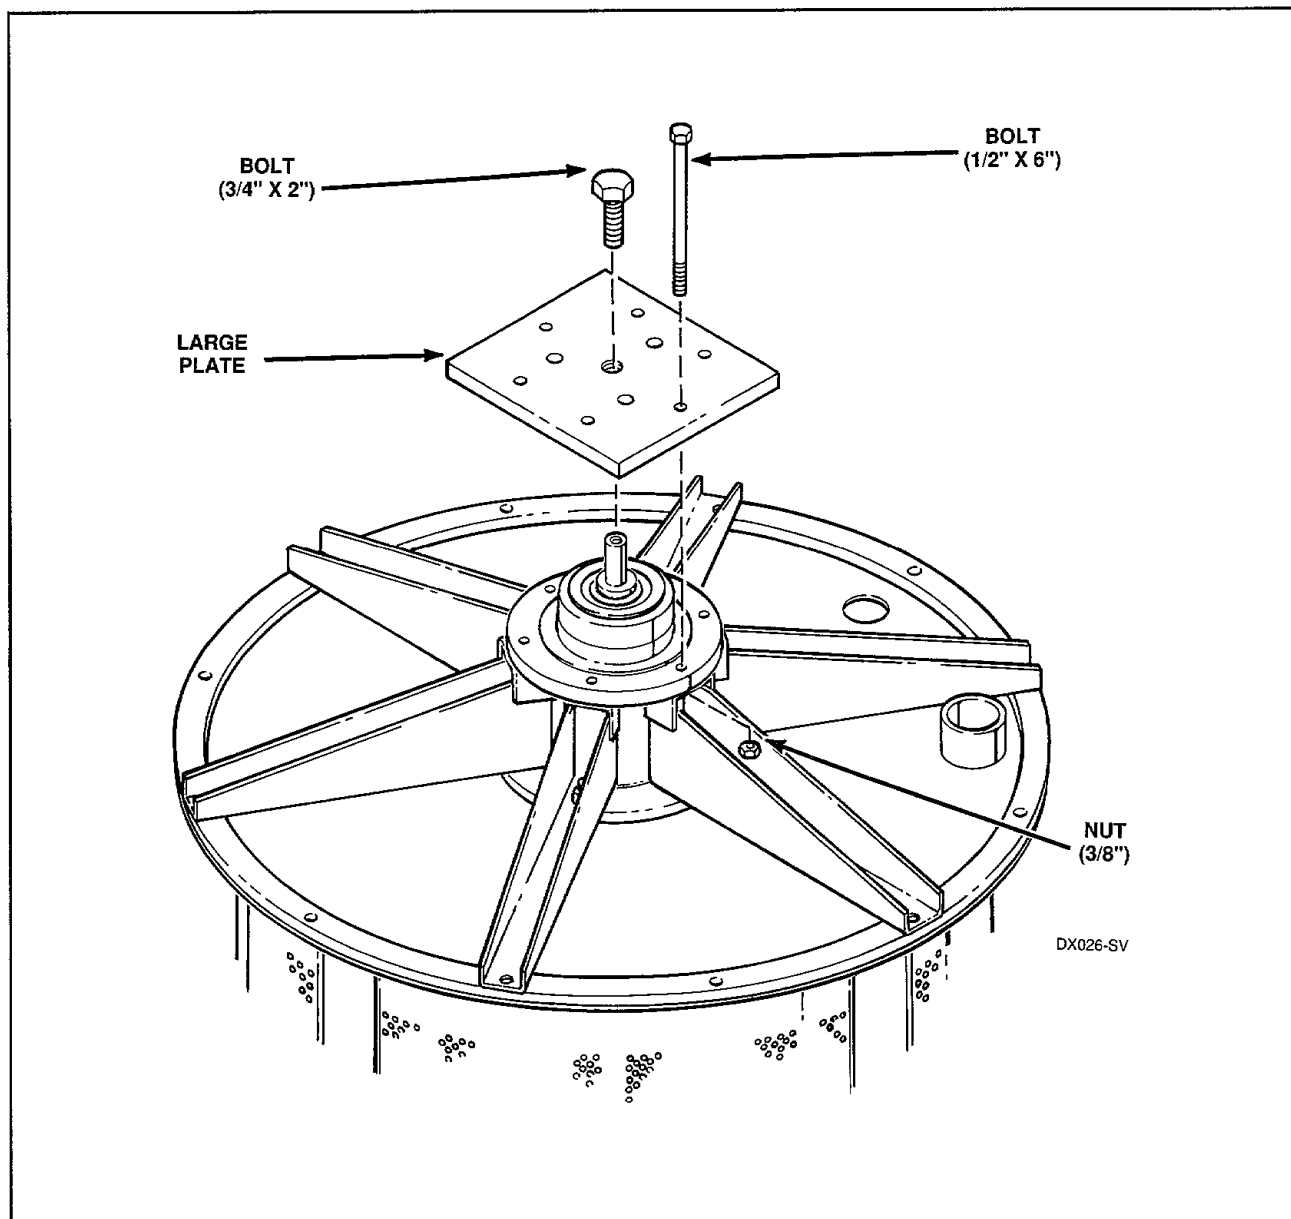

Figure 26
- c. Screw the $\frac{3}{4}$ x 2 inch bolt through center hold in large plate and pivot bolt and plate on end of cylinder shaft, *Figure 26*.
- d. Insert the $\frac{1}{2}$ x 6 inch bolts through the six outer holes in the large plate and down through the six holes in the rear flange of the bearing housing. Then install the six $\frac{3}{8}$ inch nuts on the six bolts and snug up bolts, *Figure 26*.
- e. Alternately turn each bolt, pulling the bearing housing, supports and tub back off the cylinder shaft, *Figure 26*.